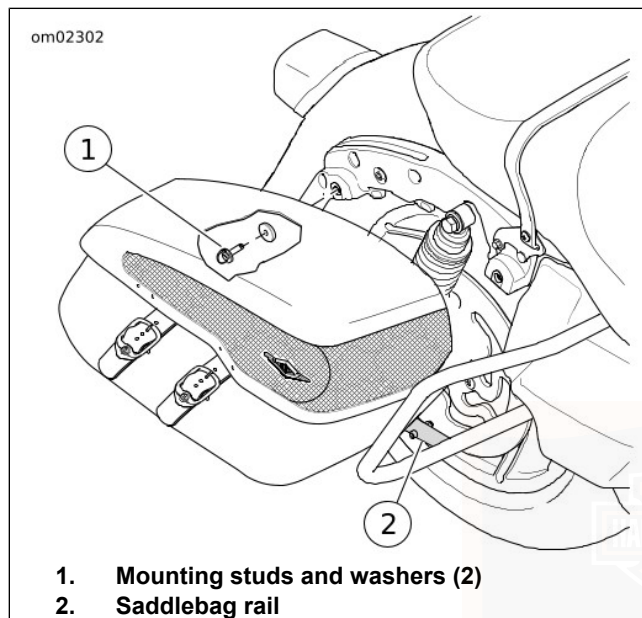

Figure 58. Saddlebag Removal/Installation: FLHRC
2. See Figure 58. Rotate the mounting studs a quarter turn counterclockwise to disengage the saddlebag from the mounting bracket.